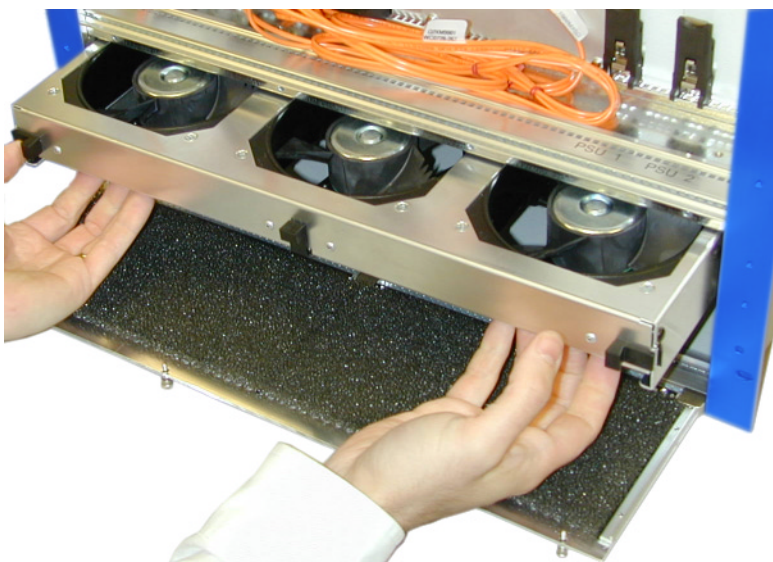

Figure 2-15 Safely Removing the Fan Assembly
The fans spin at high speed and can cause physical injury. Exercise extreme caution when removing the fan assembly, and handle it only by the sides. Do not reach into any of the 3 air ducts. Figure 2-15 on page 2-21 illustrates the correct method of removing the fan assembly.
3. With both hands, reach underneath the fan tray, and slide out the unit toward yourself, as shown in Figure 2-15.